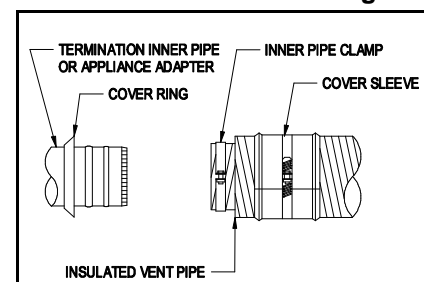

Figure 7
1. Pull outer vent pipe back 1"-2" from inner vent pipe end and remove insulation (Figure 7).
2. Slide Cover Sleeve onto end of vent pipe a few inches back from end of outer vent pipe (Figure 7).
3. Slide Cover Ring over stop bead on termination inner pipe or appliance adapter (Figure 7).
4. Assemble inner pipe clamp halves using the supplied 1/4" bolts and square nuts, and position inner pipe clamp 1/4" from end of inner pipe (Figure 7).